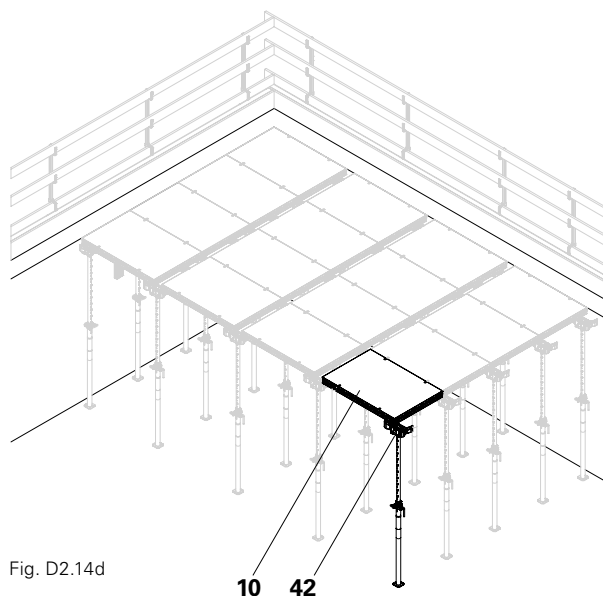

Fig. D2.14d
5. Erect the other DP panels (**10**) in the same way. (Fig. D2.14d)